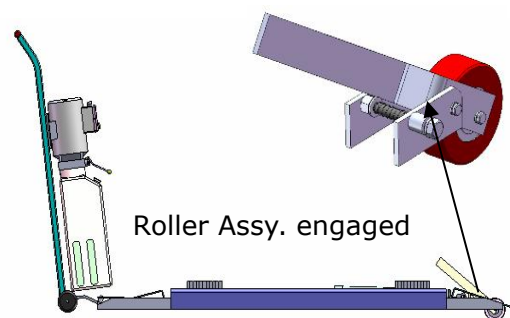

**Fig.16**
3. To lower lift: Press the button UP, until the safety lock is in the released position (**See Fig.16**), lower lift by pushing lowering handle.
4. Move lift: Pull up roller bracket, lock two roller to the lift with roller shaft. (**See Fig. 16& 17** ). Moving the lift by the power unit stand.